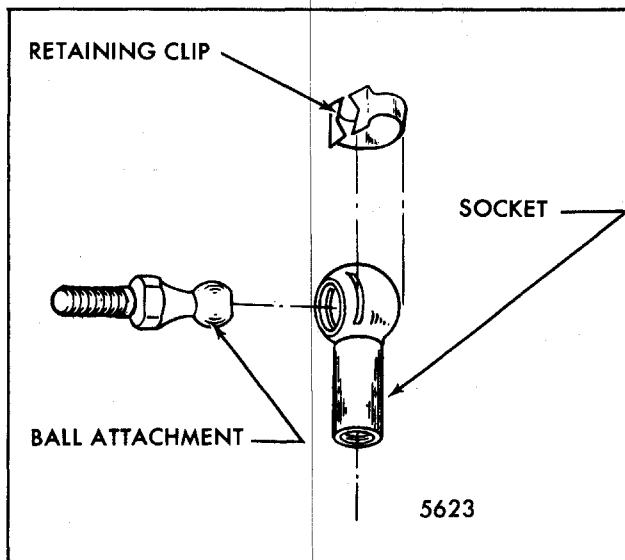

Fig. 7-10-Support Assembly Retaining Clip - "H-07, 77" and "X-17" styles
4. Remove lid side retaining clips (using scratch awl or similar tool) from both gas-operated support assemblies and disengage supports from lid side attaching ball (Fig. 7-10). Allow support assemblies to rest on compartment side panel trim.